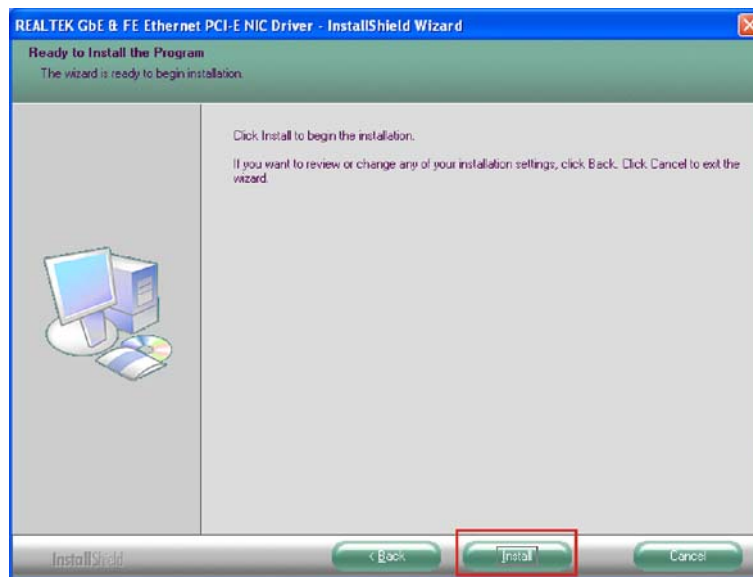

Figure 7-14: LAN Driver Welcome Screen
Step 36: The **Ready to Install** screen in Figure 7-14 appears.